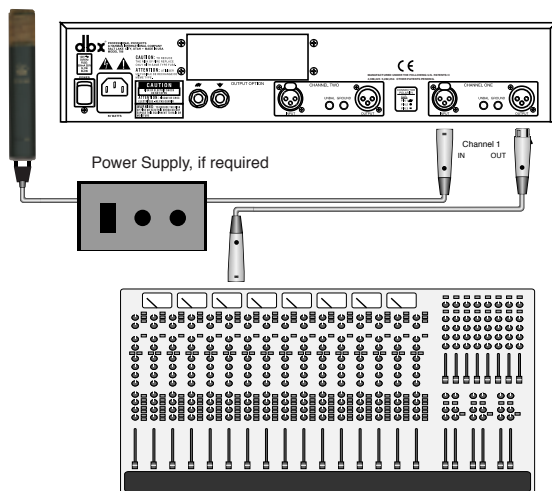

Figure 2: Bypassing a console's mic pre with the 786
5. Turn the 786's large **Gain control** counter-clockwise to the +15dB position, and the **Fine control** to 0dB, and apply power to the 786. Make sure your console's gain slider is at approximately nominal level ("0dB") and begin to slowly increase the gain of the 786 using the large **Gain control**. You should increase the gain until the recording device is operating at nominal signal input level. Refer to Figure 2 below for hooking up the 786 to a console.